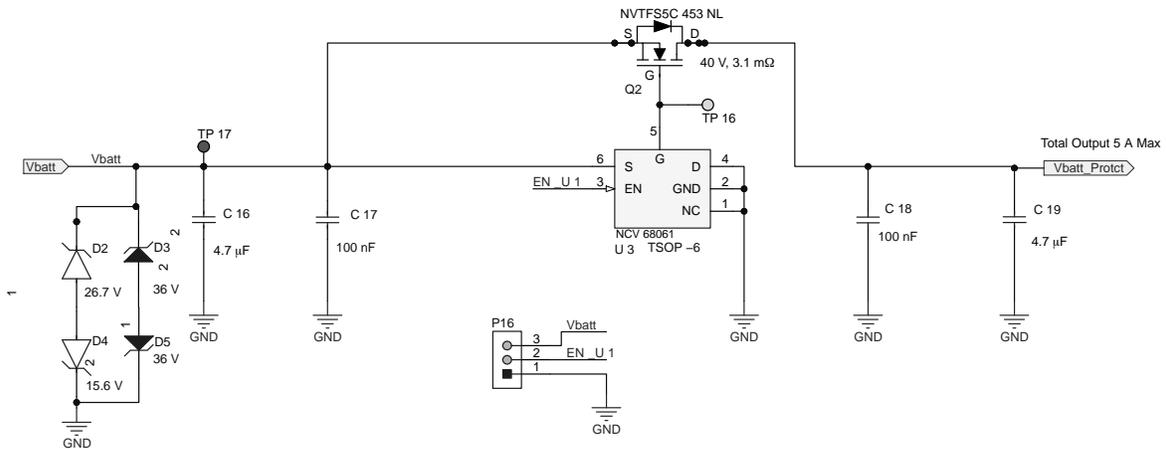

Figure 24. NCV68061 Reference Schematic
offering reverse current protection with a minimal voltage drop. By connecting the drain (D) pin to the ground, NCV68061 acts as a reverse (voltage) polarity protection (RPP). To protect the whole circuit from high voltage transients a clamping circuitry is added, as shown in Figure 24.